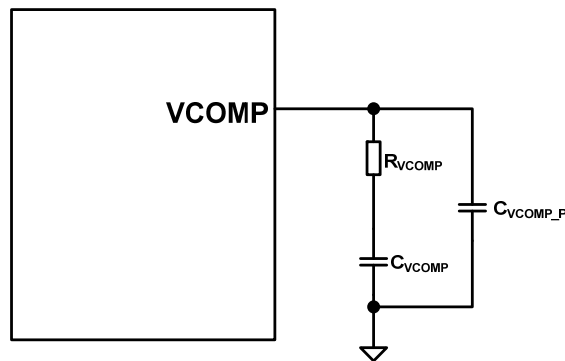

Figure 7: Compensation Network on VCOMP
VCOMP is the compensation node for the system output voltage control loop through the LLC frequency. Connect a capacitor in series with a resistor on VCOMP or an R-C-C network (see Figure 7). The zero composed of the  $R_{VCOMP}$  and  $C_{VCOMP}$  is recommended to cancel the pole formed by the system output. See Equation (11):